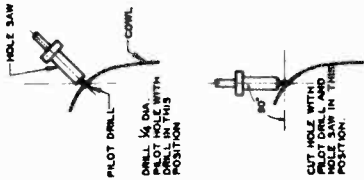

FIG. 1
- Place the template supplied in the antenna package on the cowl and punch the center of the 1-1/32" hole with a center punch, using the 1/4" pilot drill of Hinkley-Myers J-1272-C tool to drill through the cowl at the angle shown in the top view of FIG. 1. After this hole is drilled raise the drill to a vertical position as shown in the lower view of FIG. 1 and drill through with the 1-1/32" cutter.